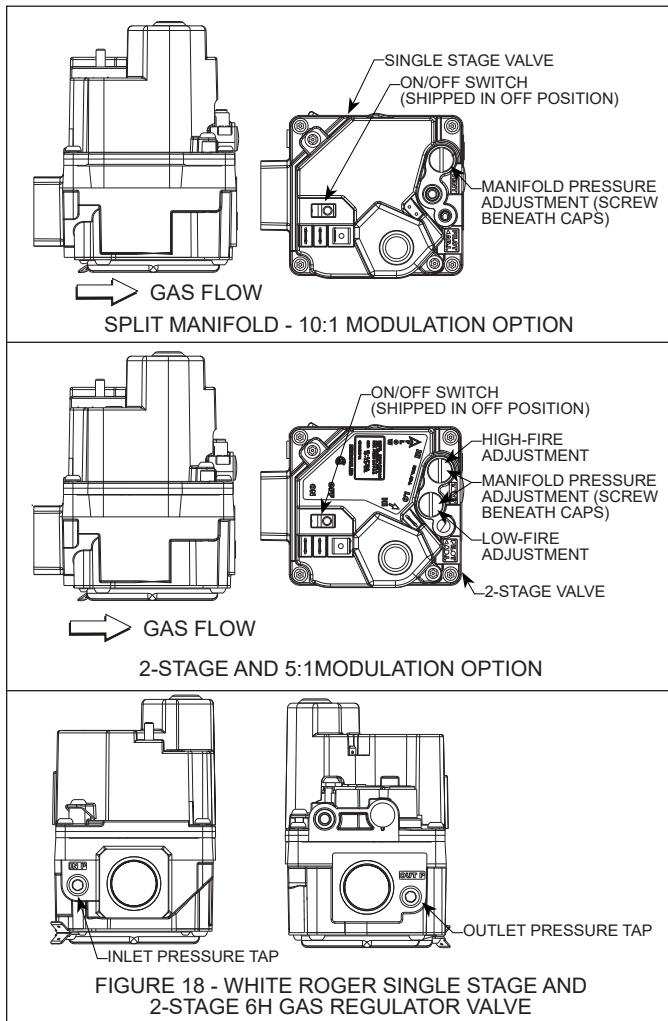

FIGURE 18 - WHITE ROGER SINGLE STAGE AND 2-STAGE 6H GAS REGULATOR VALVE
Check Manifold Pressure - After supply pressure has been checked and adjusted, check the manifold pressure at both the maximum rate (High-Fire) and the minimum rate (Low-Fire). Move test gauge to the outlet pressure tap shown in **Figure 18**. The manifold pressure is factory set and should not require adjustment. If pressure adjustment is required, See **Figure 18** to locate the high and low fire adjustment screws for the 2-Stage and 5:1 Modulation options or for the Split-Manifold, 10:1 Modulation option. Remove cap that conceals adjustment screw. Turn adjusting screw counterclockwise (out) to decrease manifold pressure or clockwise (in) to increase manifold pressure. Set manifold pressure to the values listed in **Table 7** that correspond to the altitude of unit installation, following the procedure below.
1. Connect test gauge to the outlet pressure tap on the gas valve (**Figure 18**) or on the manifold. Start the